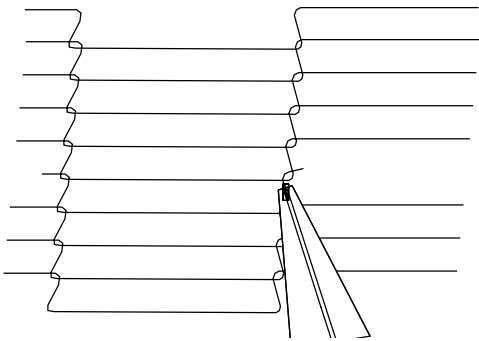

Figure 4-32.
6. Reconnect the inside master links (Figure 4-32.)